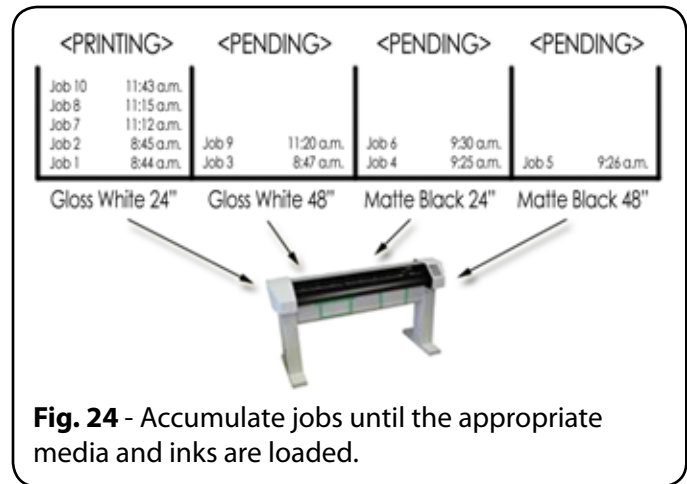

Fig. 24 - Accumulate jobs until the appropriate media and inks are loaded.
- **Queue Organization** – One-or-more queues can organize your jobs for each machine and for different types of media (Fig. 24). By accumulating jobs in each queue, they can be held until the required media and inks are loaded into the machine.